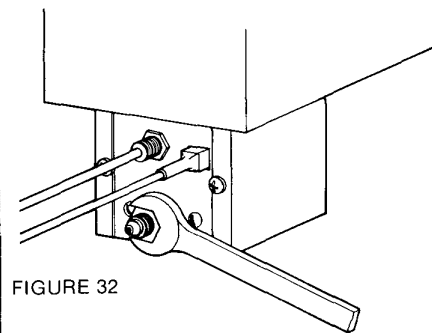

FIGURE 32
**Fig. 32** shows the removal of the orifice fitting from the burner tube.